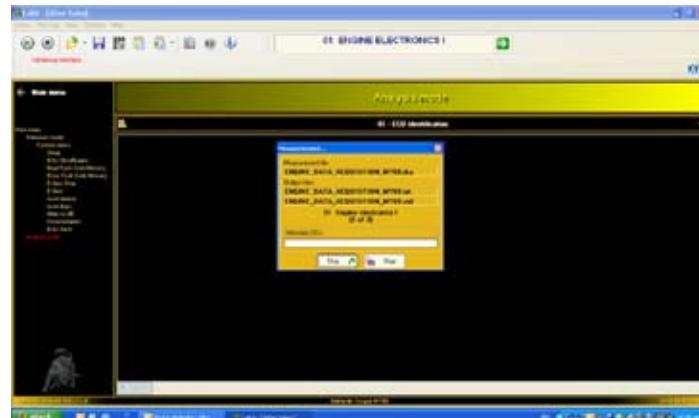

Fig.90
- 01 Engine electronics I (Fig.90)